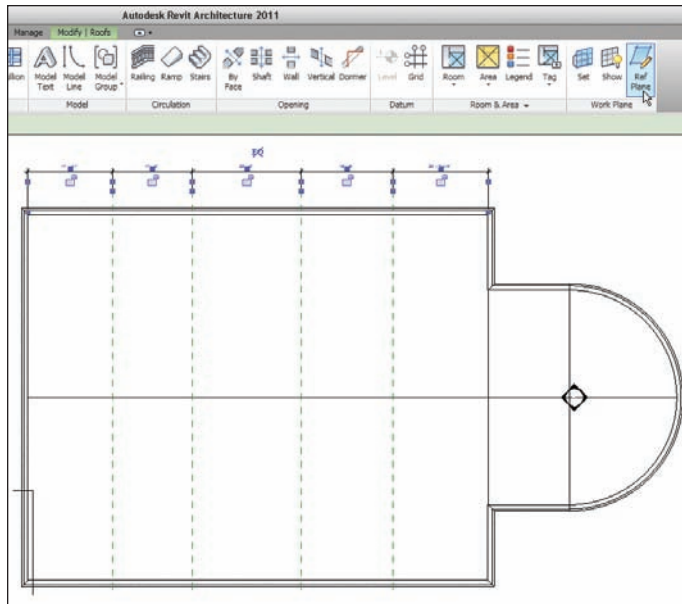

FIGURE 7.10 Add a dimension string to the reference planes shown here.
11. Press Esc twice; then, on the Home tab, click Ref Plane as shown at the top right of Figure 7.10.
12. Draw four reference planes spaced approximately the same as in Figure 7.10.
14. Add a dimension string starting at the exterior wall to the left and ending at the exterior wall to the right, as shown in Figure 7.10.